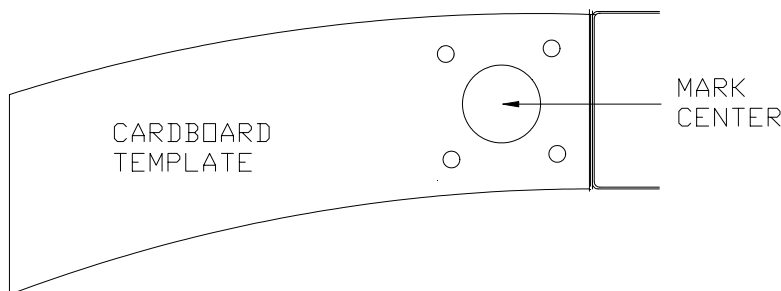

Figure 15.13.5
15) Make a cardboard template of the Stiffener Rib. (This will be used for locating holes later on. Use the FLAP-11 Pivot Block to eyeball a center point). Figure 15.13.5.